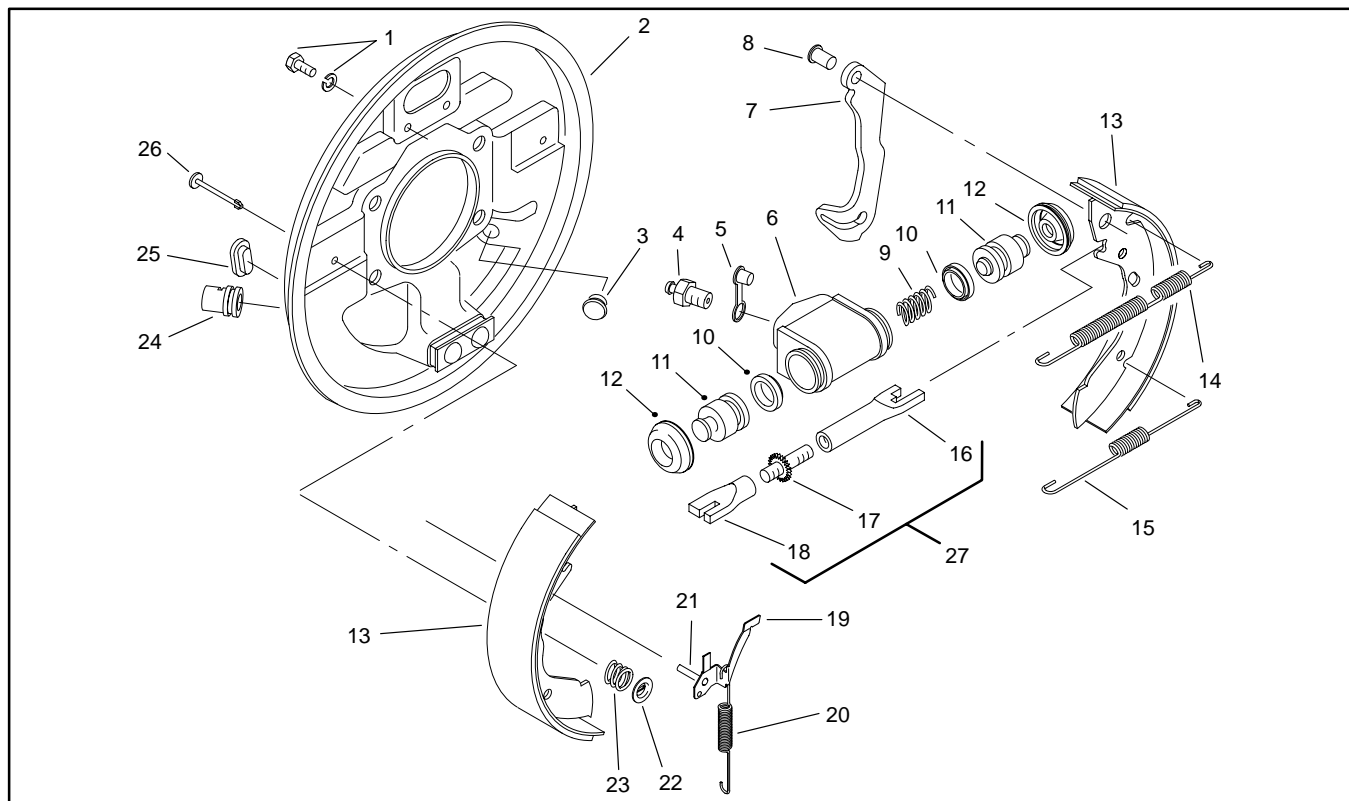

Figure 6
2. Partially loosen lug nuts (1). Jack up and secure front wheel off the ground (see Jacking Vehicle in Chapter 1 – Safety). Remove lug nuts and wheel from the brake drum (32).
**Note:** If the brake drum sticks to the brake shoes (13) during removal, loosen brake shoes from the drum by turning bolt adjuster (17) (Fig. 6).
3. Remove brake drum (32) from the cap screws (3) and stub axle (31).
4. Remove flange lock nut (36) and flat washer (35) from the threaded shaft of the CV joint (15) and stub axle (31).
5. Pull stub axle (31) and bearing (14) cone from the axle housing (28) and the splined end of the CV joint (15). Make sure large spacer (30) and small spacer come out with the stub axle.
**Note:** It may be necessary to remove the brake assembly (5) from the axle housing (28) for servicing parts such as the brake cylinder assembly.
6. If necessary, remove brake assembly (5) as follows:
A. Disconnect brake tube (8) from the brake assembly (5) and brake hose (13). Plug front brake hose (13).
B. Remove brake assembly from the axle housing (28) by removing the four cap screws (6) and lock washers (7) from the housing.
## Disassembly (Fig. 6 and 7)
## Inspection (Fig. 6)
### Assembly (Fig. 6 and 7)
1. If the brake assembly (5) was removed from the axle housing (28), install assembly as follows:
A. Secure brake assembly to the axle housing with four cap screws (6) and lock washers (7).
B. Unplug front brake hose (13). Connect brake tube (8) to the brake assembly and brake hose.
2. Insert small spacer and then large spacer (30) onto the stub axle (31). Make sure bearing (14) cone is sufficiently greased.
3. Insert stub axle (31), bearing (14) cone, and spacers into the axle housing and onto the splined end of the CV joint (15).
4. Secure stub axle (31) to the threaded end of the CV joint (15) with the flat washer (35) and flange lock nut (36). Torque flange lock nut from 170 to 200 ft-lb (23.5 to 27.7 kg-cm).
5. Install brake drum (32) to stub axle (31) with cap screws (3).
6. Adjust brake shoes (13) as follows (Fig. 6).
A. Align access hole in the brake drum with the bolt adjuster (17).
B. Rotate bolt adjuster so adjuster assembly (27) length makes both brake shoes (13) contact the brake drum.
8. Secure wheel to the brake drum (32) with five lug nuts (1). Lower front wheel to the ground. Torque lug nuts from 45 to 55 ft-lb (6.2 to 7.6 kg-m).